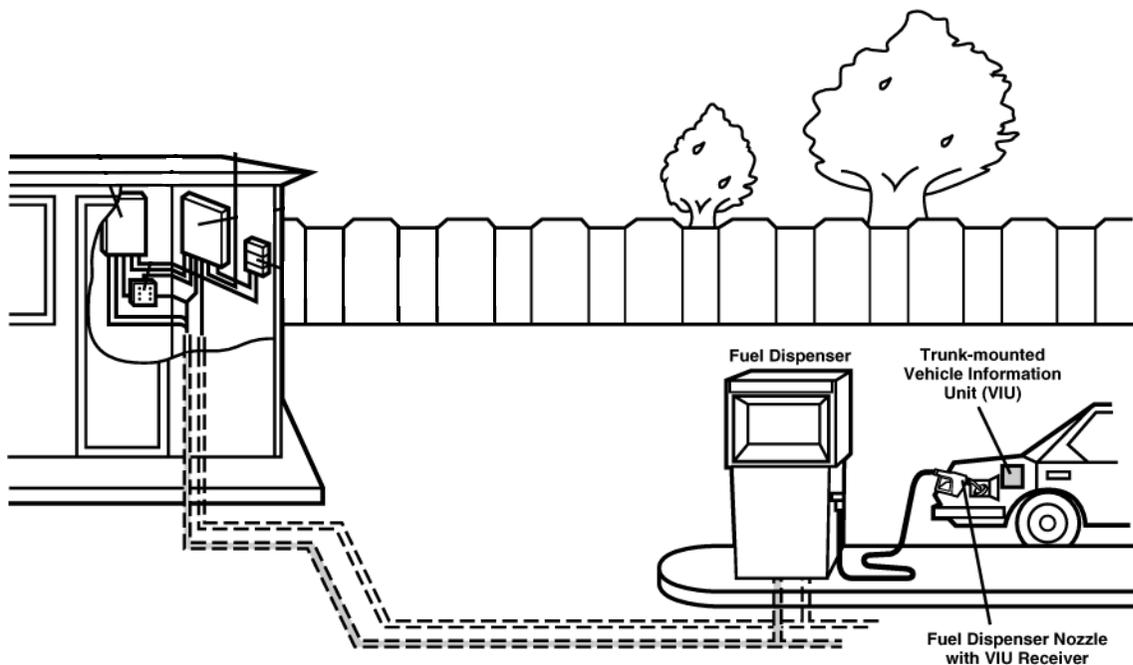

Figure 1: Overall FleetLINK System
The System2 Fuel Site Controller (the FSC, inside the site office) is the data processing device attached to the VIT. The FSC saves the data for all fueling transactions. *Figure 1* shows the two main FleetLINK subsystems and their basic components.
*Figure 1 does NOT show the System2 portions of the installation. The System2 FIT would be mounted near the fuel dispenser, and the System2 FSC would be inside the building.*